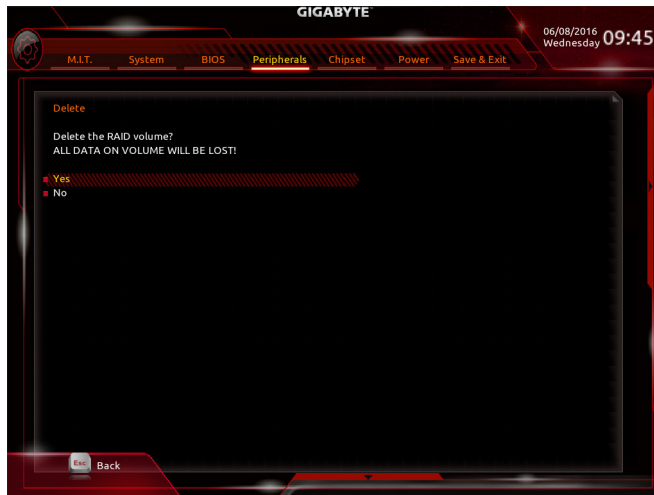

Figure 12
To delete a RAID array, press <Enter> on the volume to be deleted on the **Intel(R) Rapid Storage Technology** screen. After entering the **RAID VOLUME INFO** screen, press <Enter> on **Delete** to enter the Delete screen. Press <Enter> on **Yes** (Figure 12).